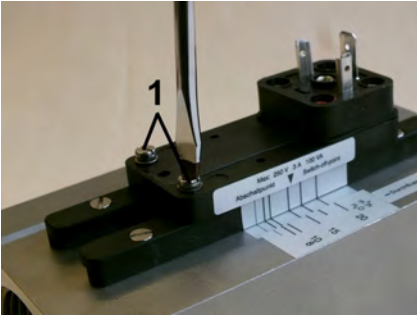

Fig. 47: Loosen set screws
3. ➤ Using a flat-bladed screwdriver (Fig. 47/1), loosen the set screws of the switch contact until it moves freely
- 11.** ▶ Retighten the set screws (Fig. 47/1) observing the proper tightening torque of the screws (*↪ Chapter 11.1 “Tightening torque” on page 69*)